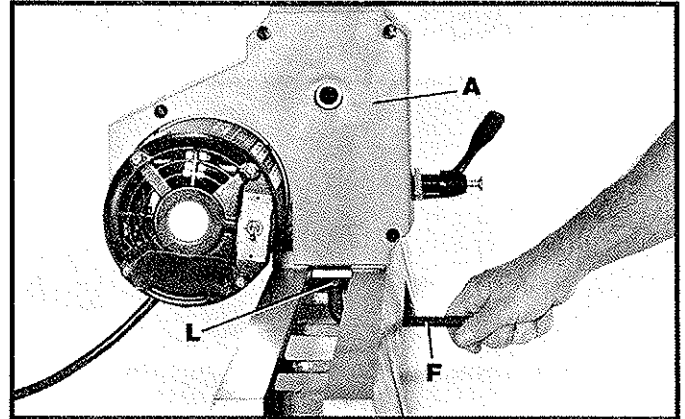

Fig. 5
4. Using the headstock positioning wrench (F) Fig. 5, loosen screw (L) located directly underneath headstock (A) just enough to allow the headstock (A) to slide along the lathe bed. **NOTE:** Do not overly loosen screw (L).